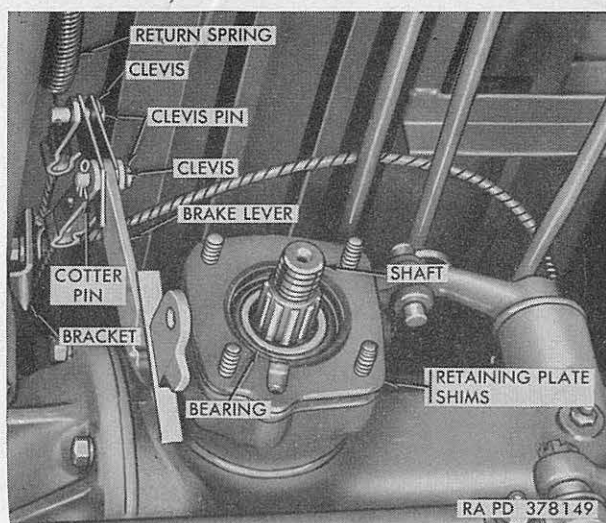
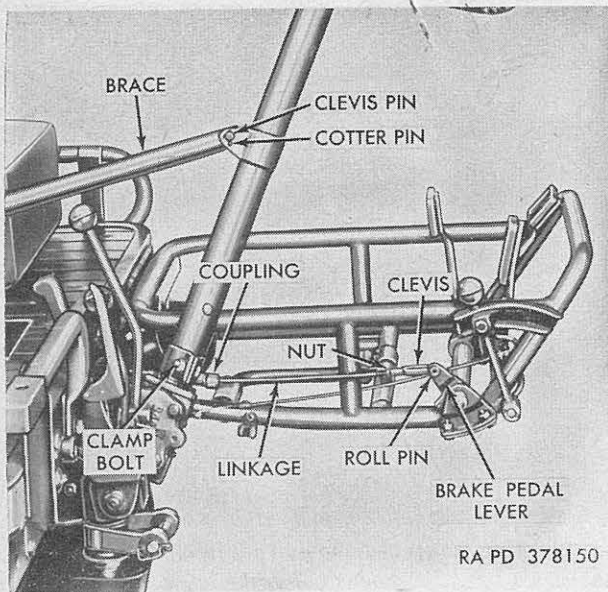
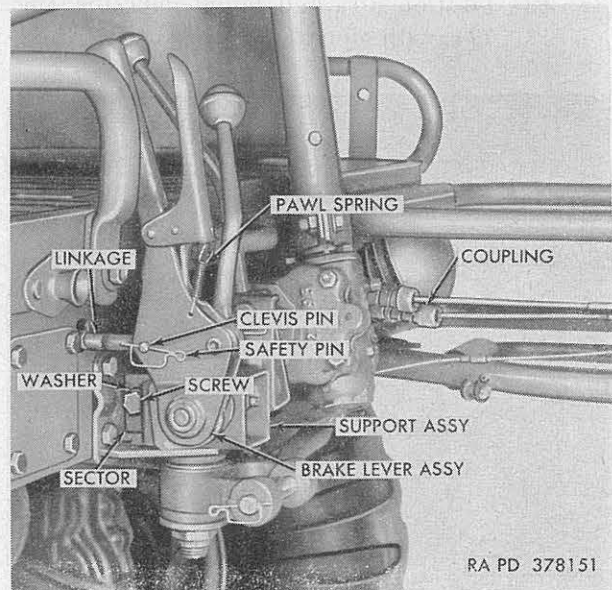

Figure 78. Shaft bearing and adjusting shims after removal of brake.
Figure 79. Footbrake front control flexible linkage.
Figure 80. Disconnect points for brake control flexible linkages.
bearing retainer plate or shims (fig. 78) located between the deflector and front axle carrier as these control the adjustment of the drive gear.
- (7) Unhook return spring (fig. 78) from clevis pin connecting handbrake flexible linkage to upper end of brake lever, and remove clevis pin. Remove cotter pin and clevis pin connecting foot brake flexible linkage to lower hole in brake lever and remove lever. Note hole in clevis in which pin is installed for convenience at assembly.
- (1) Secure rear end of footbrake flexible linkage at brake lever lower hole (fig. 78) with  $\frac{5}{16} \times 2\frac{7}{32}$  clevis pin and  $\frac{3}{32} \times \frac{1}{2}$  cotter pin. Secure rear end of handbrake flexible linkage to top hole in brake lever with  $\frac{5}{16} \times 2\frac{7}{32}$  clevis pin and hook return spring into hole in clevis pin.
- (1) *Removal.* Disconnect front flexible linkage from coupling (fig. 79) just forward of front edge of platform.
- (2) *Installation.* Position clevis (fig. 79) on front end of front flexible linkage on brake pedal lever and install  $\frac{1}{4} \times \frac{5}{8}$  roll pin. Install ball on rear end of front flexible linkage in coupling on front end of rear flexible linkage.
- (3) *Adjustment.* The total length of front and rear flexible linkages when installed must be so adjusted that when brake lever and brake pedal are in extreme rear position there is no slack in linkages. Adjustment may be made by loosening nut (fig. 79) on front linkage and turning threaded end of cable in clevis, by changing the hole used in the clevis on rear end of rear linkage, or by both.
- (1) *Removal.* Disconnect rear flexible linkage from coupling (fig. 79) on rear end of front flexible linkage. Remove cotter pin (fig. 78) and clevis pin connecting clevis on rear end of rear flexible linkage to brake lever, and pull linkage out of guide in bed support front crossmember. Note hole from which clevis pin is removed for convenience at assembly.
- (2) *Installation.* Push front end of flexible linkage through guide in bed support front crossmember from the rear. Install ball on front end of linkage in coupling (fig. 79) on rear end of front flexible linkage. Pull clevis on rear linkage back to remove slack, position clevis on lower hole in brake lever (fig. 78) and install  $\frac{5}{16} \times \frac{27}{32}$  clevis pin and  $\frac{3}{32} \times \frac{1}{2}$  cotter pin securing clevis to lever.
- (3) *Adjustment.* Adjust length of linkages as directed in a (3) above.
a. *Removal.* Remove safety pin and clevis pin (fig. 80) securing clevis on front end of handbrake flexible linkage to handbrake lever. Remove retracting spring (fig. 78) and clevis pin connecting clevis on rear end of linkage to upper hole in brake lever. Remove two hex nuts, washers and hex-head bolts securing clamps on ends of conduit to conduit support bracket (fig. 56) on bed support front crossmember and bracket (fig. 78) attached to front axle. Pull linkage to rear of crossmember and remove from vehicle.
b. *Installation.* Push front end of hand brake flexible linkage through hole in bed support front crossmember. Position clevis on rear end of linkage at upper hole in brake lever and install  $\frac{5}{16} \times \frac{27}{32}$  clevis pin (fig. 78). Install retracting spring
between hole in clevis pin and hole in tube bracket. Secure clamp and rear end of conduit to bracket secured to rear axle with  $\frac{5}{16}$ -24NF x 1 hex-head bolt, lockwasher and hex nut. Secure clamp and front end of conduit to conduit support bracket (fig. 56) on front crossmember with  $\frac{5}{16}$ -24NF x 1 hex-head bolt, lockwasher and hex nut. Loosen nut securing clevis on front end of linkage (fig. 80) and adjust clevis to aline with hole in handbrake lever when lever is in extreme rear position. Install clevis pin securing clevis to lever and secure clevis pin with safety pin. Tighten nut against clevis.
*a. Removal.* Remove hex-head screw (fig. 80) and lockwasher securing the sector to brake and shift lever support assembly. Remove safety pin from cotter pin securing handbrake flexible link-
*b. Repair.* The handbrake lever (fig. 80) assembly is welded and riveted together, the pawl spring being the only part which can be replaced without destroying other parts. To replace pawl spring unhook ends from body and finger grip and remove from assembly. Hook a new spring in place with the longer end hooked into finger grip.
*c. Installation.* Push handbrake lever assembly (fig. 80) onto shaft in support assembly, with hole in sector alined with threaded hole in support. Secure sector to support with  $\frac{3}{8}$ -16NC x  $\frac{7}{8}$  hex-head screw and lockwasher. Position clevis on front end of handbrake flexible linkage in alinement with hole in brake lever and install clevis pin and safety pin.